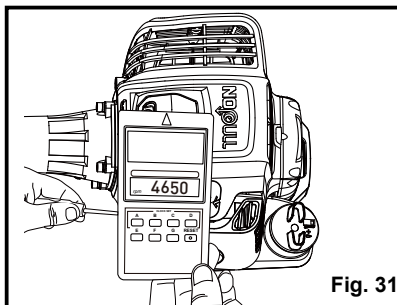

Fig. 31
- Adjust the L screw: while the cutter is idling, turn the L screw clockwise using the carburetor adjustment tool. Observe the RPM displayed on the tachometer until it reaches the max speed (Fig. 31). This max speed could be greater than or less than 4000 RPM.